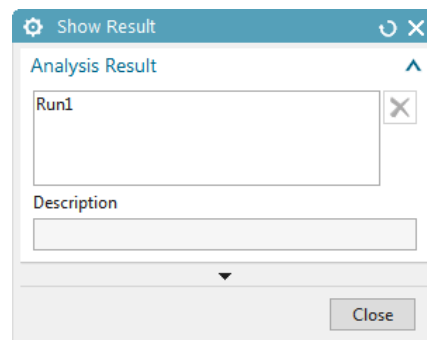

Figure 16-83 The Show Result dialog box
6. Choose the **Show Result** tool from the **Settings** group; the **Show Result** dialog box gets displayed, refer to Figure 16-83.